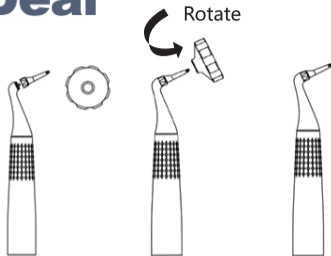

Figure 8 Tighten the subgingival nozzle
3.2.2.1 Install an accessory nozzle before use. Screw in the nozzle to the top of the subgingival handpiece, and then tighten the nozzle with a wrench (as shown in Figure 8).